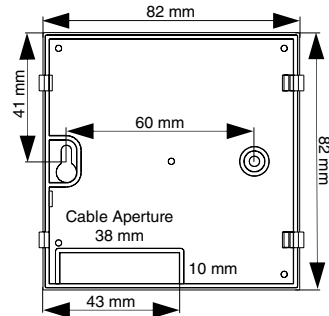

Fig. 2.
- 2.** The thermostat has been designed for fixed wiring only. Cable access is through the rear of the mounting backplate as shown in Fig. 2
The backplate can be secured either to a flat vertical mounting surface or to a single gang flush mounted wiring box: the fixing centres are shown in Fig. 2